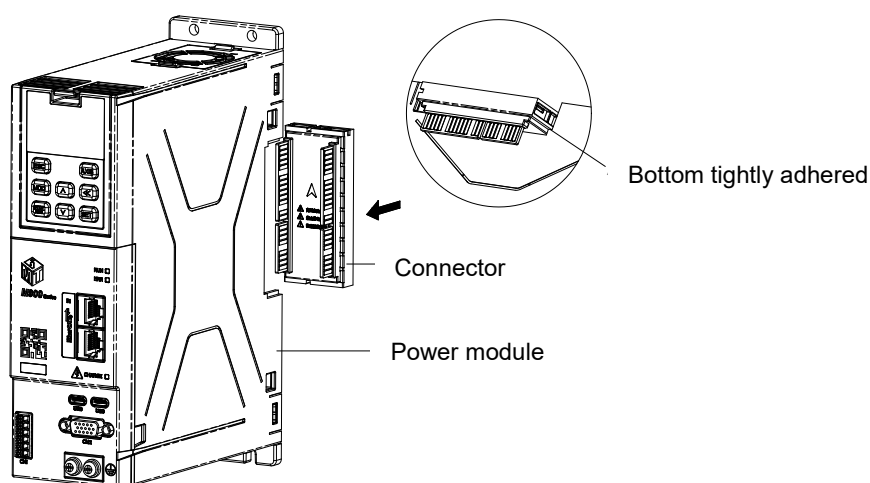

Figure 4-4 Insert the power module into the connection socket
1. As shown in Figure 4-4, insert the first connector into the slot at the bottom of the power module, Until the step surface of the connector is tightly attached to the bottom of the slot, pay attention to the correct direction of the connector when inserting.